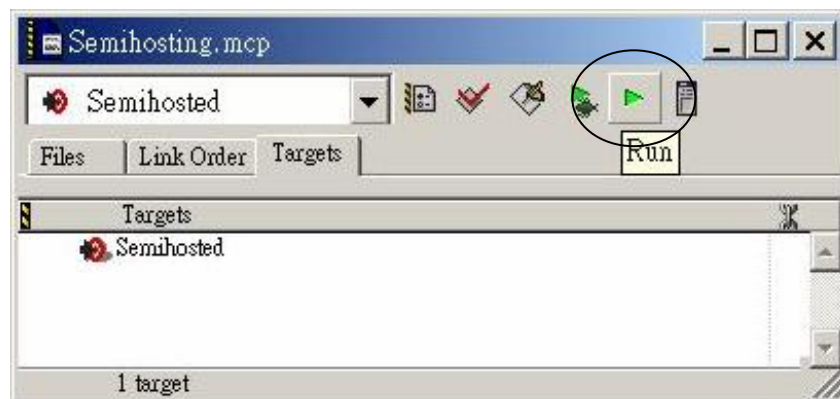

Figure 12 Debug the project from the project window
9. Hit the **Run** button to run the program (Figure 12).